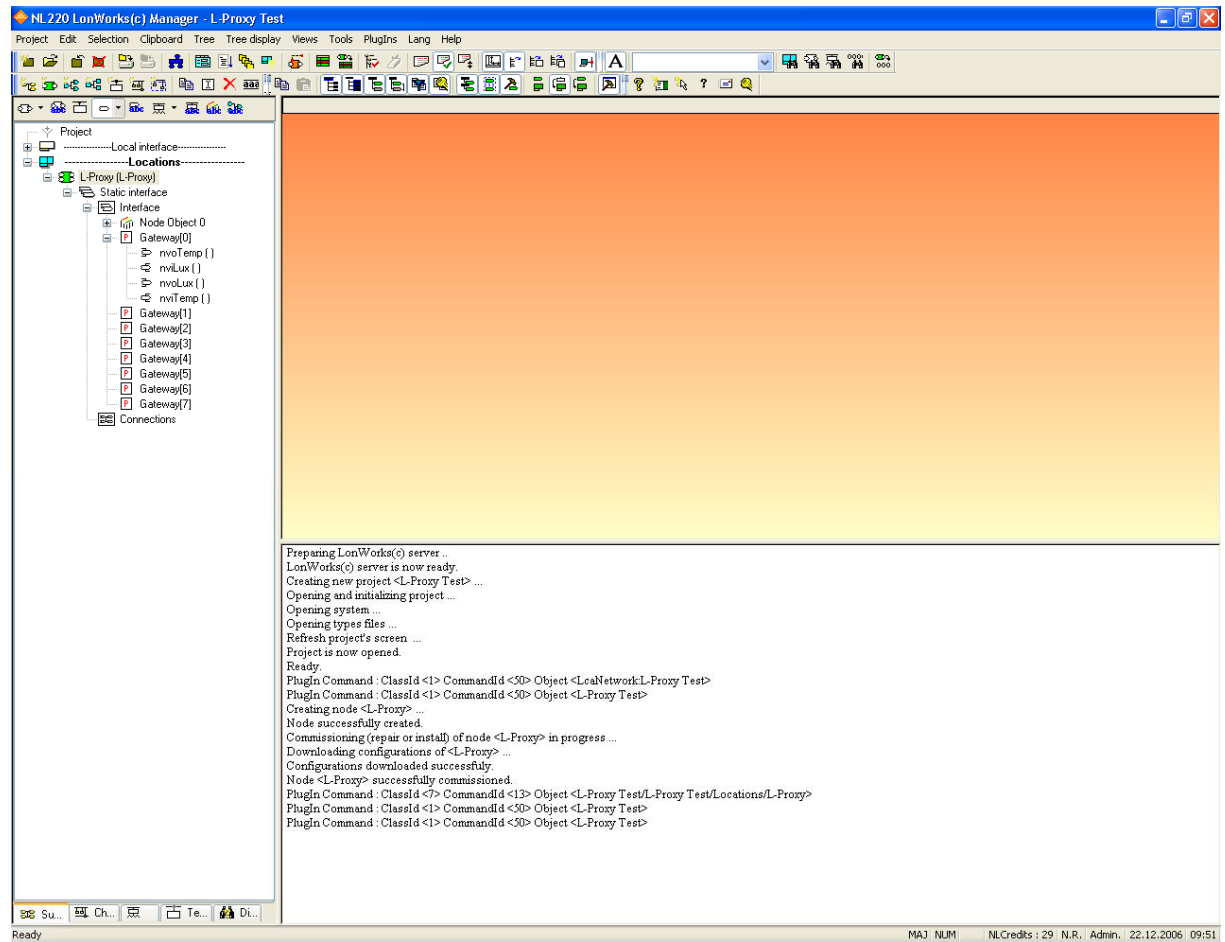

Figure 92: L-Proxy device in NL-220.
1. Right-click on the device in the device tree as shown in Figure 92 and select **Network** → **Replace**. Alternatively, the device can be selected and the device replacement can be started by pressing 'Ctrl+I'.